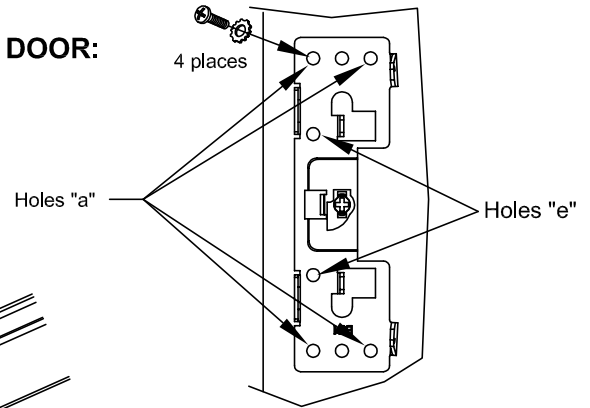

Fig. 8
1. (Fig. 8) Install the backplate using holes "a" with the screws and lockwashers according to the Pilot/Drill/Tap/Screw chart .